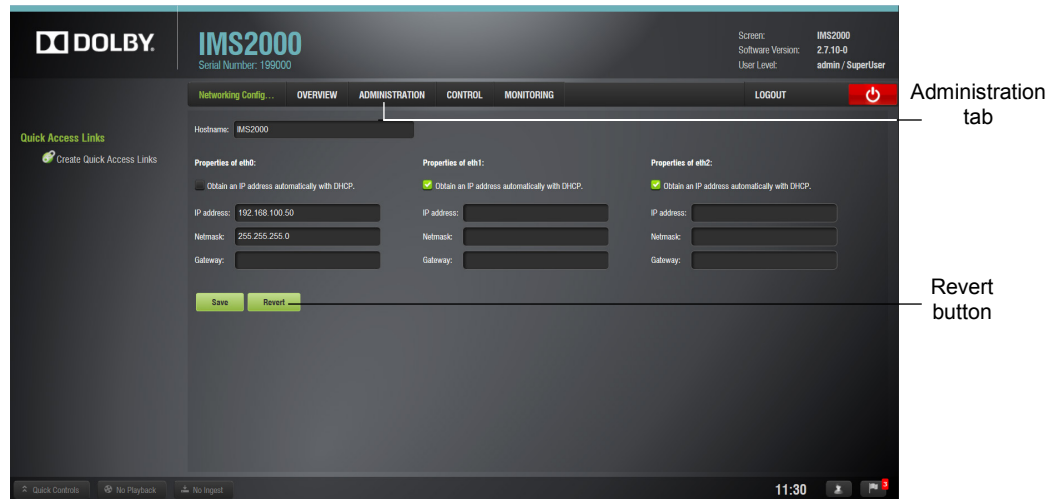

Figure 9-3 Network Configuration Window
2. Click on the **Revert** button (see Figure 9-3).